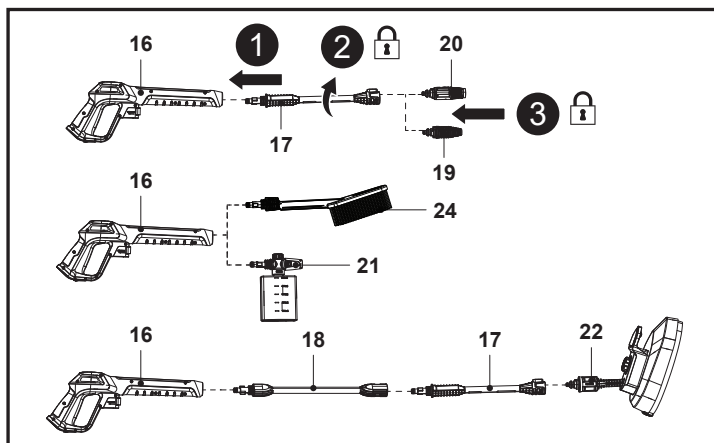

Fig. 5
1. Align and insert the extension lance (17) into the socket of the spray gun (16) (Fig. 5, step 1).
2. Push and turn the extension lance (17) clockwise onto the spray gun (16) until hand tight to lock it in place (Fig. 5, step 2).
3. Align the two nozzle taps with the slots of the extension lance (17), then insert the turbo nozzle (19) or variable nozzle (20) until the end (Fig. 5, step 3).
4. Align the two taps of detergent bottle nozzle (21) or wash brush (24) with the spray gun (16), then push and turn the detergent bottle nozzle (21) or wash brush (24) clockwise onto the spray gun (16) until hand tight to lock it in place.
5. You can assemble the patio brush (22) on the extension lance (17), then assemble the combination directly onto the spray gun (16) or through the extension pole (18).